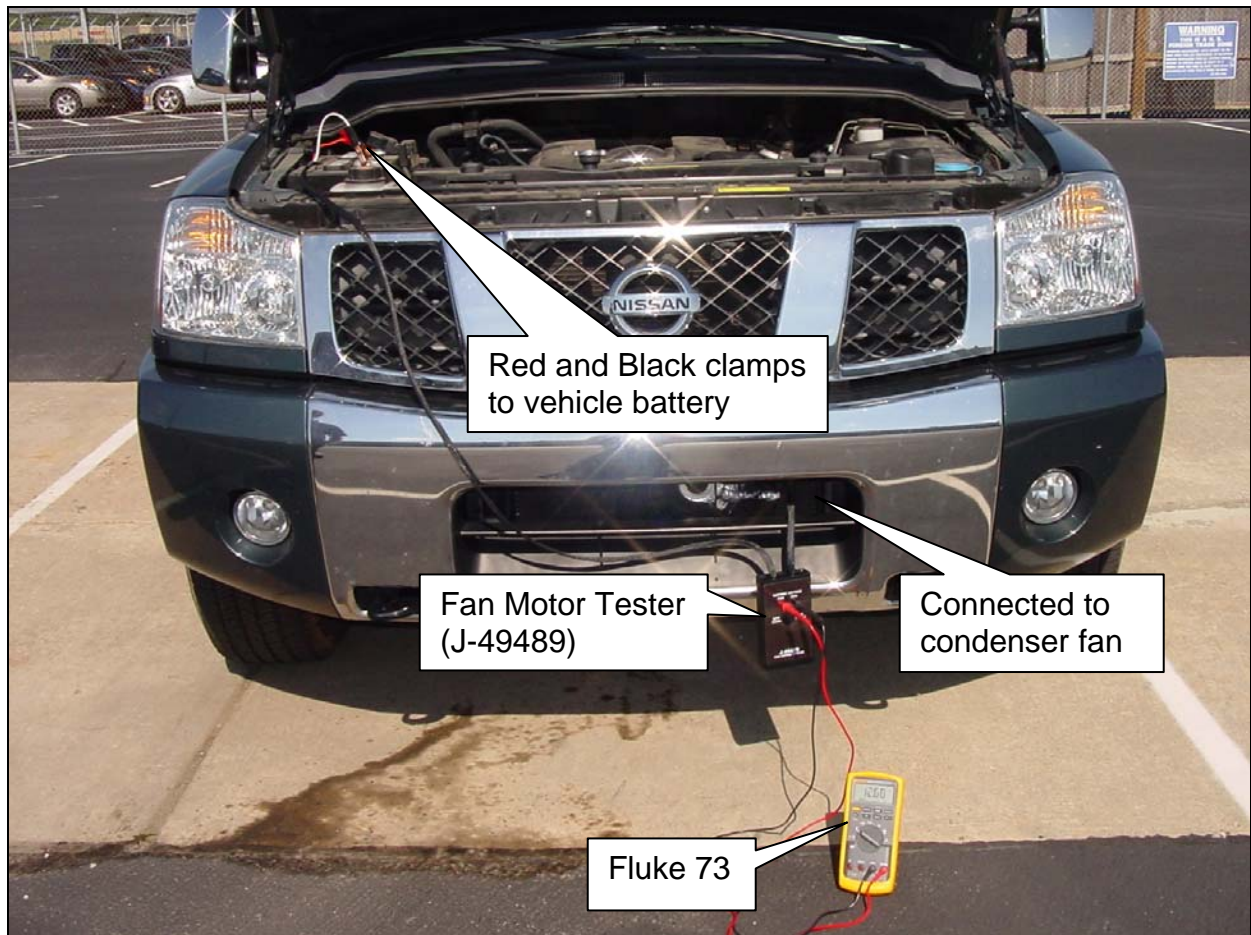

Figure B-4
6. Connect the Fan Motor Tester and the Fluke 73 Digital Multimeter (using the fluke meter test leads) as follows (see Figure B-4):